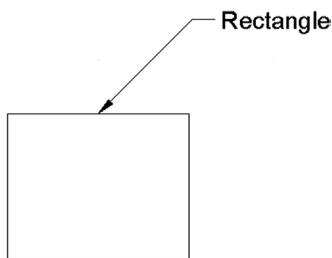

FIGURE 6.13 Leader.
This is an *arrow and label* combination pointing at something (Fig. 6.13).
Step 2. Click with OSNAP precision on your shape, perhaps a midpoint on the top side, as seen in Fig. 6.13.